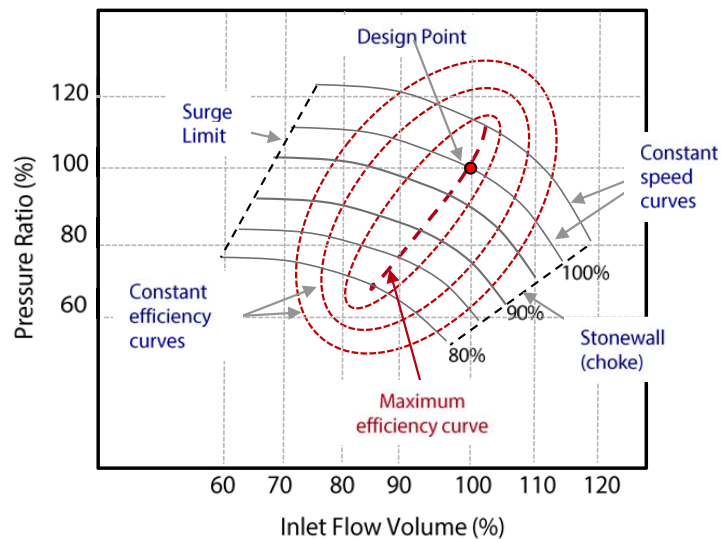

Figure S10.1 Centrifugal compressor performance map
- a) Constant speed lines and efficiency curves are indicated in Figure S10.1. Also shown are surge, choke, trace of optimum efficiency and design point